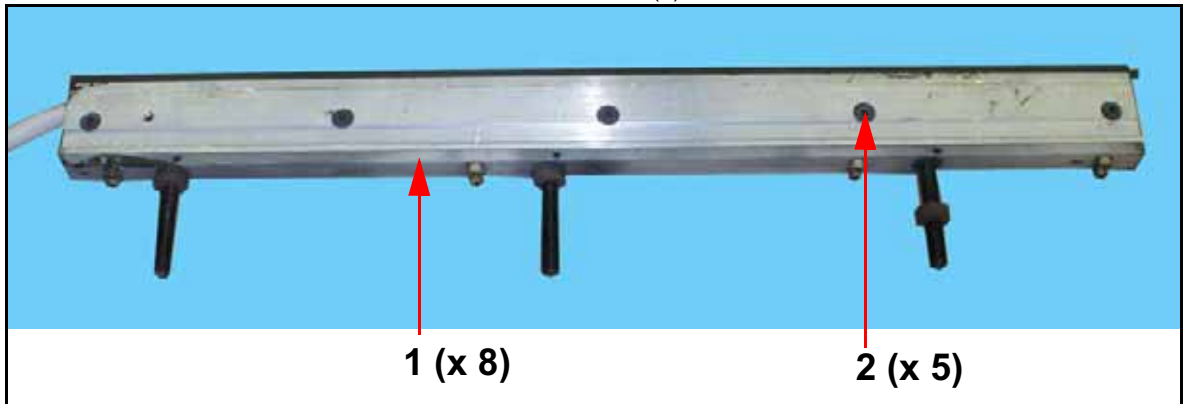

Figure 7-42. Seal Bar Screws
- 3 Loosen eight top bar screws (1 in Figure 7-42).
- 4 Loosen five side bar screws (2).